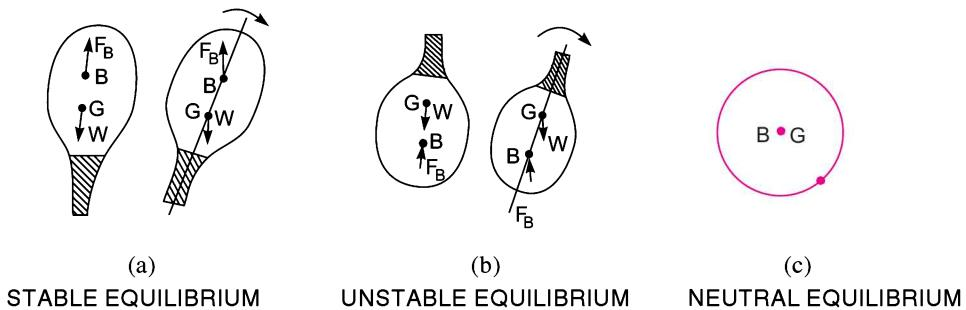

Fig. 4.12 *Stabilities of sub-merged bodies.*
**4.7.1 Stability of a Sub-merged Body.** The position of centre of gravity and centre of buoyancy in case of a completely sub-merged body are fixed. Consider a balloon, which is completely submerged in air. Let the lower portion of the balloon contains heavier material, so that its centre of gravity is lower than its centre of buoyancy as shown in Fig. 4.12 (a). Let the weight of the balloon is  $W$ . The weight  $W$  is acting through  $G$ , vertically in the downward direction, while the buoyant force  $F_B$  is acting vertically up, through  $B$ . For the equilibrium of the balloon  $W = F_B$ . If the balloon is given an angular displacement in the clockwise direction as shown in Fig. 4.12 (a), then  $W$  and  $F_B$  constitute a couple acting in the anti-clockwise direction and brings the balloon in the original position. Thus the balloon in the position, shown by Fig. 4.12 (a) is in stable equilibrium.
(b) **Unstable Equilibrium.** If  $W = F_B$ , but the centre of buoyancy ( $B$ ) is below centre of gravity ( $G$ ), the body is in unstable equilibrium as shown in Fig. 4.12 (b). A slight displacement to the body, in the clockwise direction, gives the couple due to  $W$  and  $F_B$  also in the clockwise direction. Thus the body does not return to its original position and hence the body is in unstable equilibrium.
(c) **Neutral Equilibrium.** If  $F_B = W$  and  $B$  and  $G$  are at the same point, as shown in Fig. 4.12 (c), the body is said to be in neutral equilibrium.